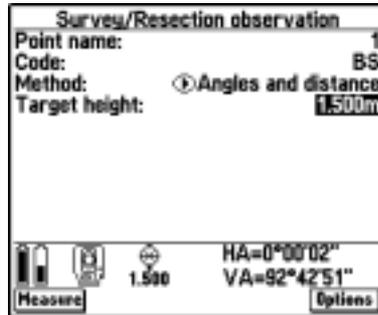

Figure 19.7 Survey/Resection observation screen
4. Press . The *Survey/Resection observation* screen appears, as shown in Figure 19.7.